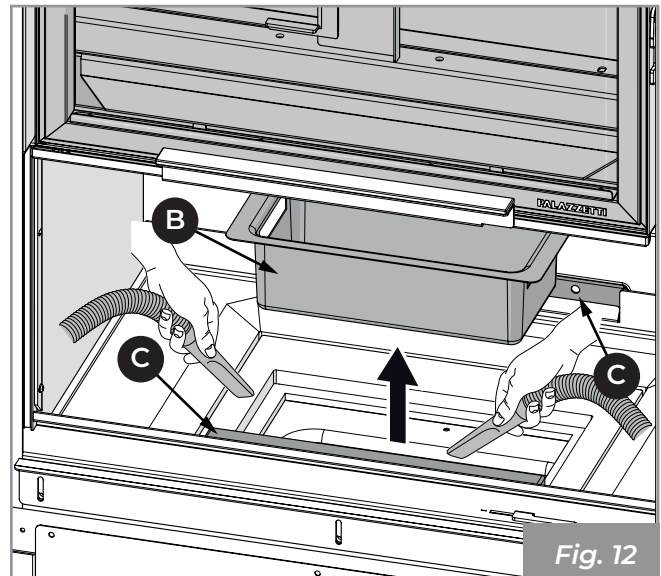

Fig. 12
- 2) Extract the ash drawer (B) from the base and vacuum out any ash deposited in the compartments below (Fig. 12).
- 3) Vacuum the front and rear holes (C) of the combustion air distributor in order to avoid any accumulation of ash (Fig. 12).